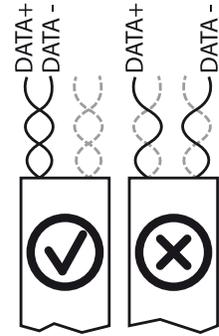

Figure 19: Assignment of twisted-pair wires
- Observe the wire pairing when connecting DATA+ and DATA- (see Figure 19 on page 25)